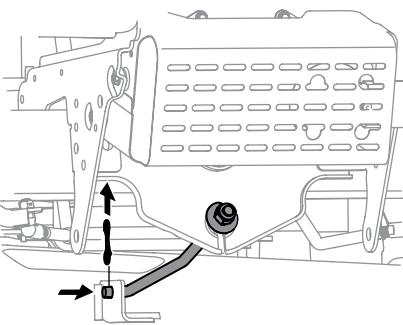

Figure 4-14
9. On 42" and 46" decks, remove the bow-tie pin securing the deck stabilizer rod to the deck. Slide the deck lift rod from the mounting weldment on the deck as seen in Figure 4-14.